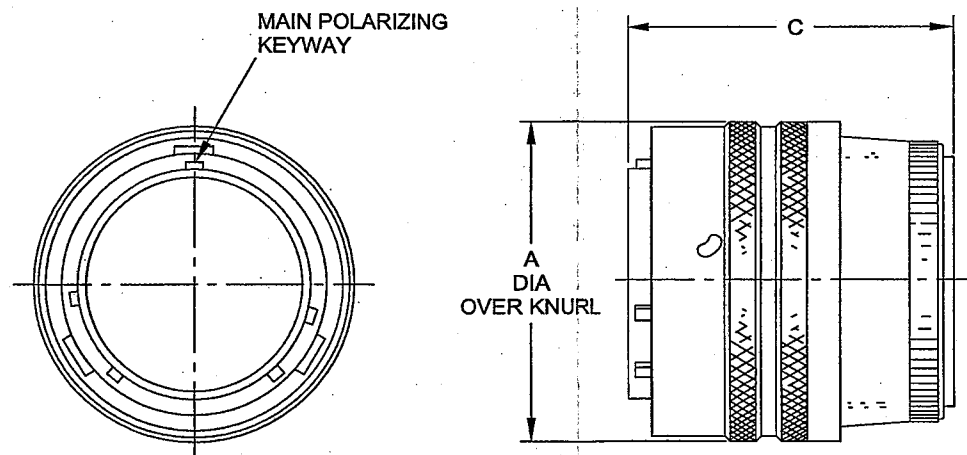

Fig 13 466 Straight plug, dimensions
11.3 Details of the 466 straight plug are given in Fig 13 and Table 8.